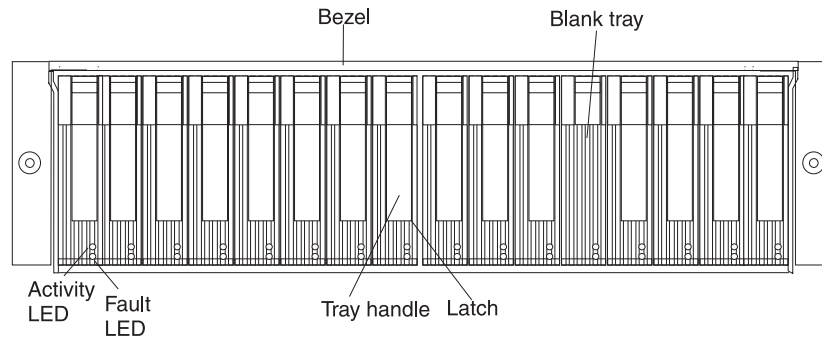

Figure 81. Hot-swap E-DDM LEDs
2. Check for Fault LEDs shown in Figure 81 on page 133. If any amber LEDs are lit, see "Solving problems" on page 157.